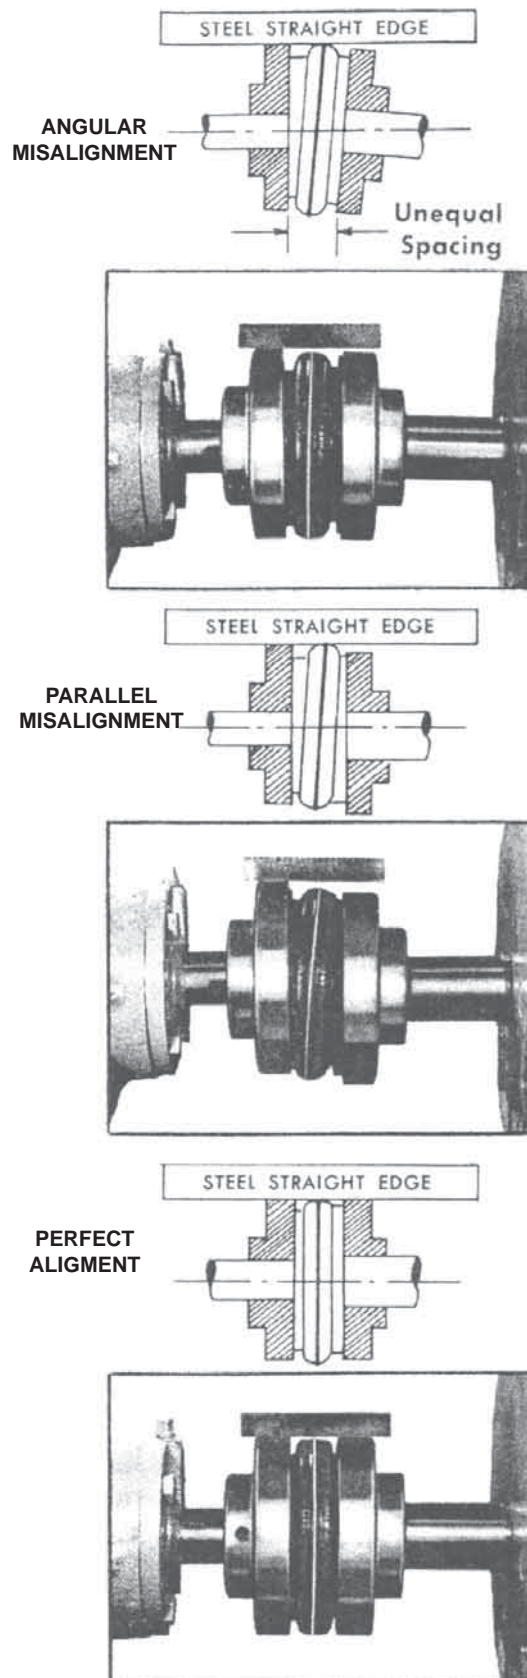

Figure 3
3. Align the pump and motor shafts at the flexible coupling. Hold a straight edge on the top of the coupling so that it extends over both halves. Straight edge should rest evenly across both rims of the coupling halves when the straight edge is placed on the top, sides and bottom with no light showing between the straight edge and rim of the coupling. Also check vertical alignment of the coupling faces with a thickness gauge. Faces must be parallel and spaced about 1/8" apart when the motor rotor is at its extreme position towards the pump. This safe guards the pump shaft being crowded endwise by the motor shaft end play. By proper adjustment of metal shims under pump or motor, both halves of the flexible coupling can be brought into alignment See Figure 3.